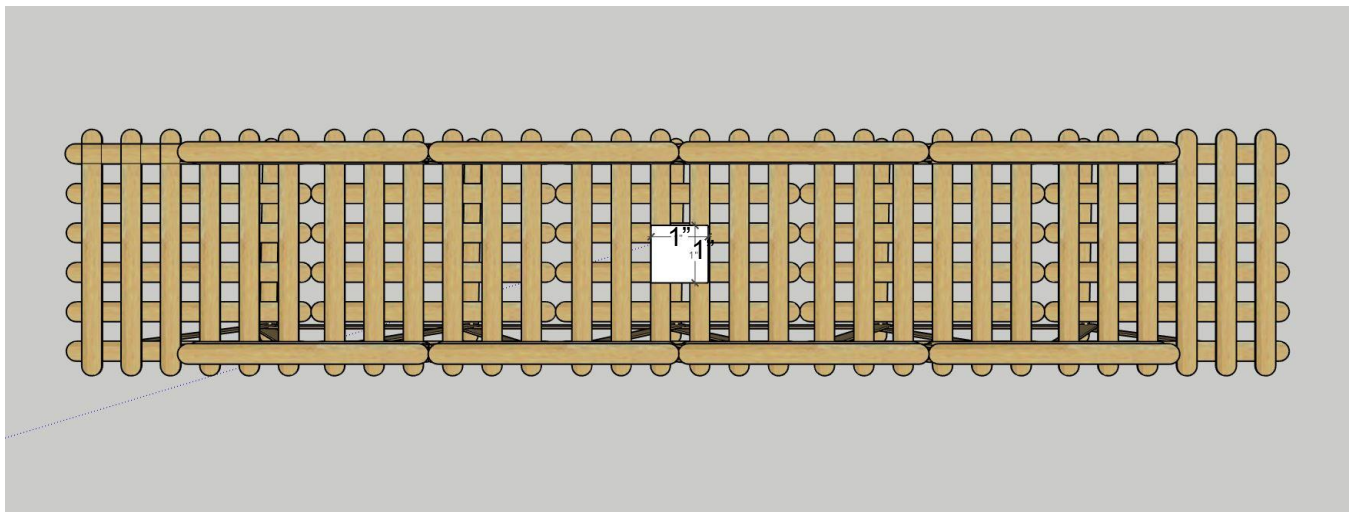

Figure 6 - Center 1" x 1" Hole Requirement (Not to Scale)
- Bridges must have a clear 1" x 1" opening along its center from top to bottom. Popsicle sticks can be cut only for this opening. Refer to Figure 6.